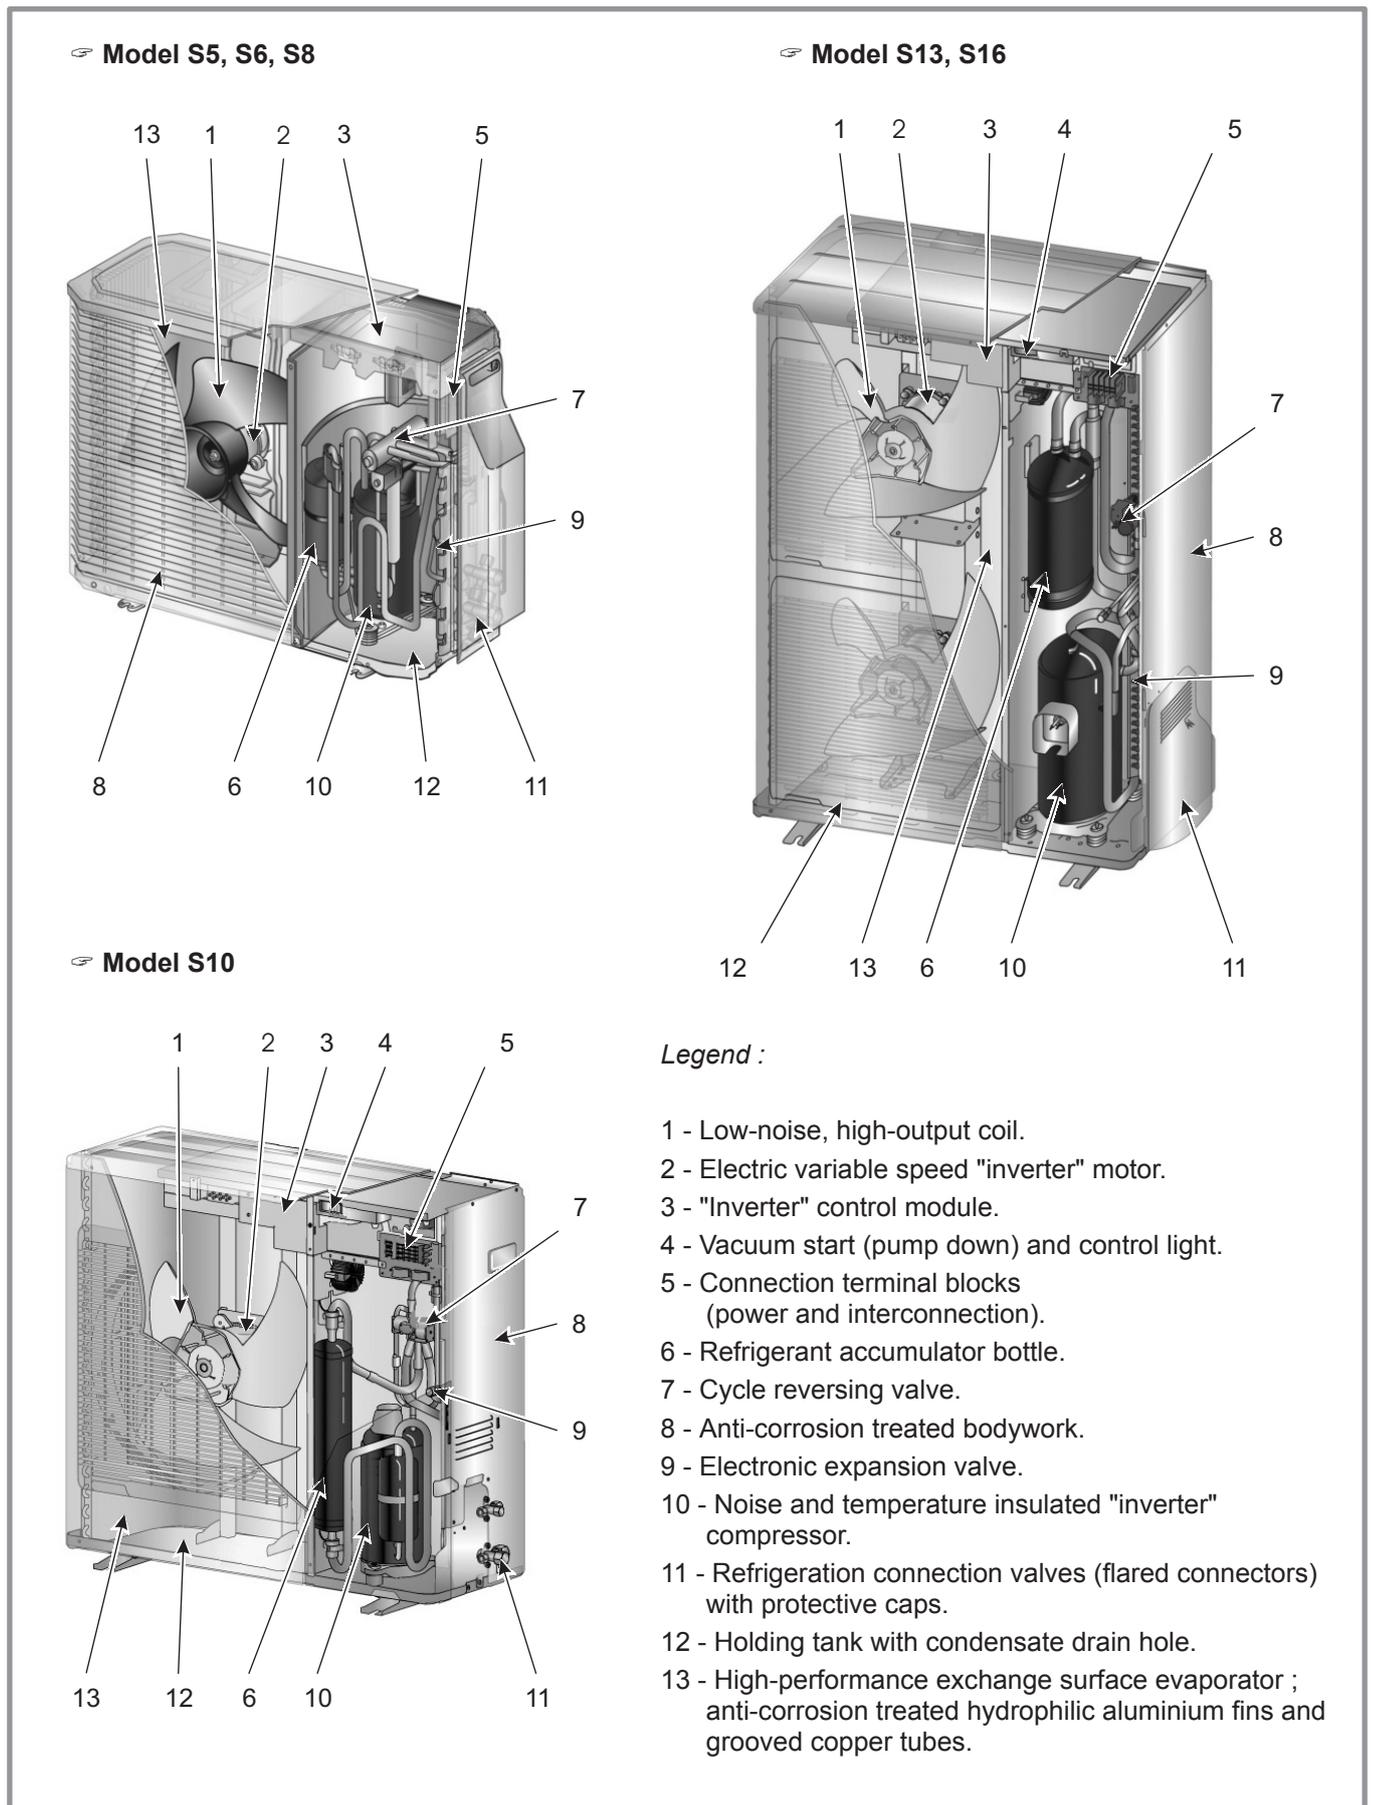

Figure 7 - Outside unit components
- In the evaporator (rep. 13, figure 7, page 11) : The energy is taken from the surrounding air and is transmitted to the refrigerant. Because it has a low boiling point, it changes from the liquid state to the vapour state, even in cold weather (down to  $-15^{\circ}\text{C}$  outside temperature).
- In the compressor (rep. 10, figure 7, page 11) : The vaporised refrigerant brought to high pressure and takes on more calories.
- In the expansion valve (rep. 9, figure 7, page 11) : The liquefied refrigerant is brought back to low pressure and returns to its initial temperature and pressure.